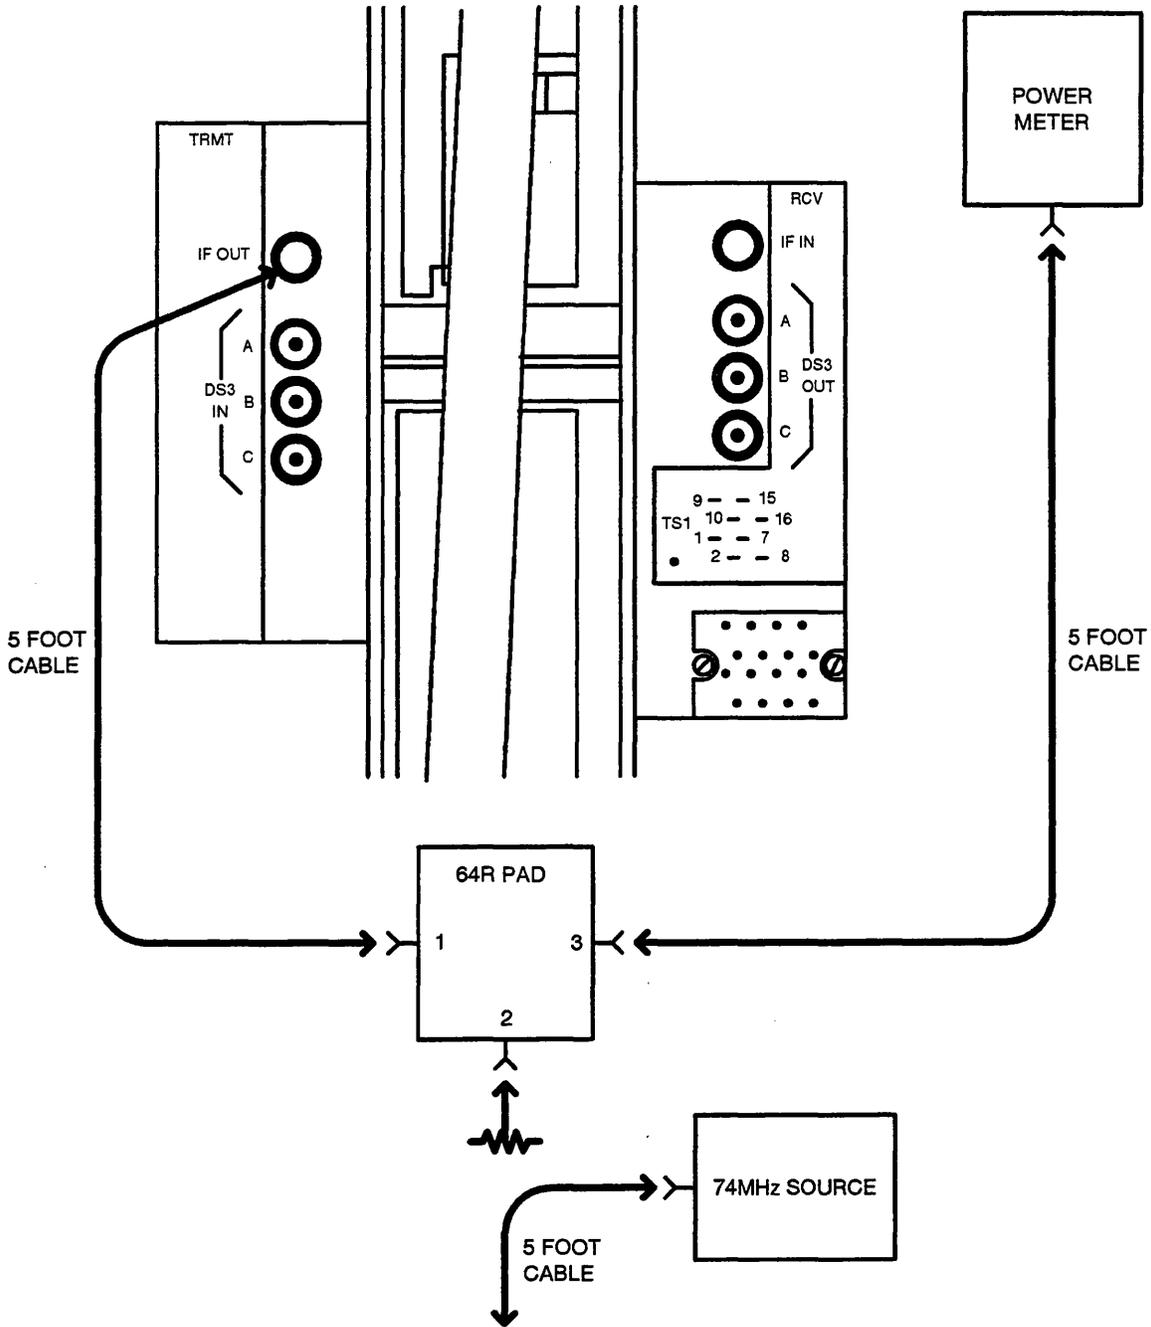

Figure 1- "S" (IF Signal) Power Level Measuring Connections
- Refer to Figure 1.
4. Establish the test connections shown in Figure 1.